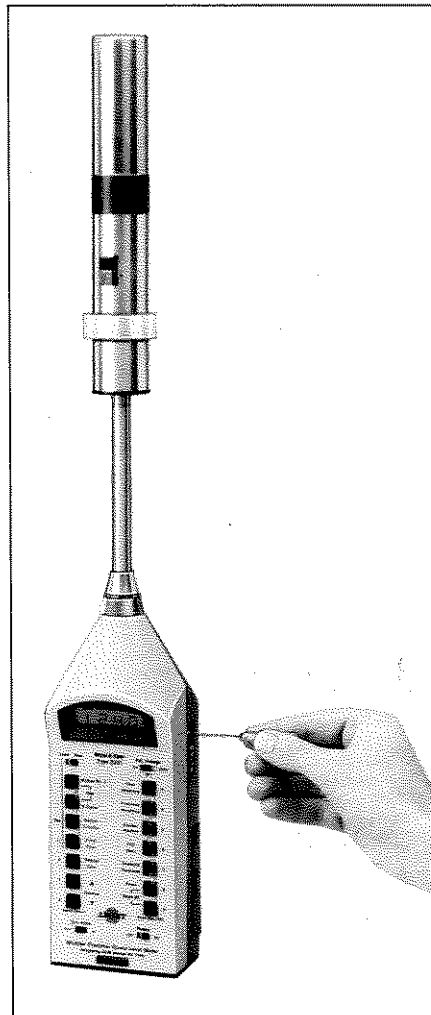

Fig. 2.10. Calibration with Pistonphone Type 4220
5. Fit the Pistonphone with the appropriate Microphone Adaptor and place it over the microphone so that it makes a snug, steady fit. See Fig.2.10.